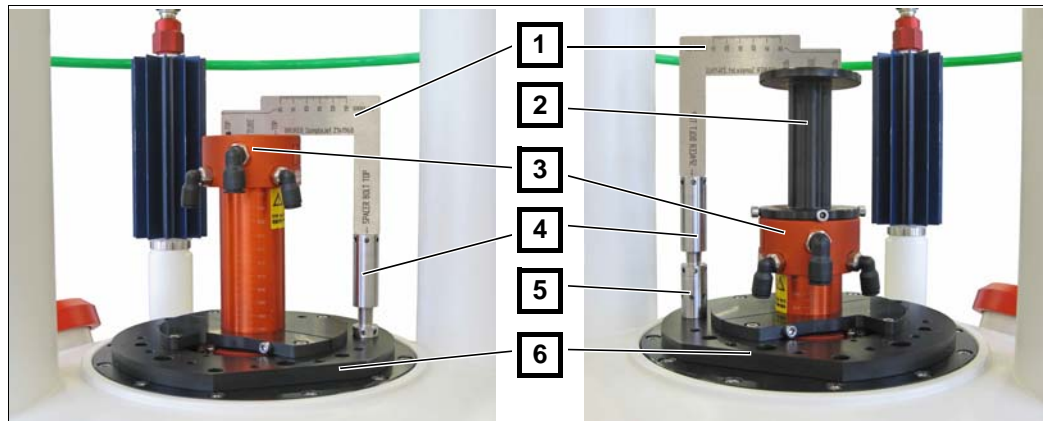

Figure 3.11 Use the Adjustment Gauge to Set the Base Plate Height
- Use the adjustment gauge as shown (see [Figure 3.11\[1\]](#)) to determine the height for the bolts. If the BST tube extends not enough from the magnet, the distance tube (see [Figure 3.16\[3\]](#) on page 34) is needed for the installation {Tools: Adjustment gauge, 2.5mm allen key}.